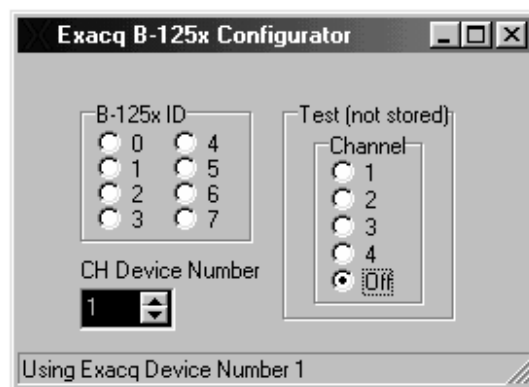

Figure 9-5 – B1250Cfg Main Screen
- Start the B1250Cfg application. It should appear similar to the screen shot in figure 9-5 below